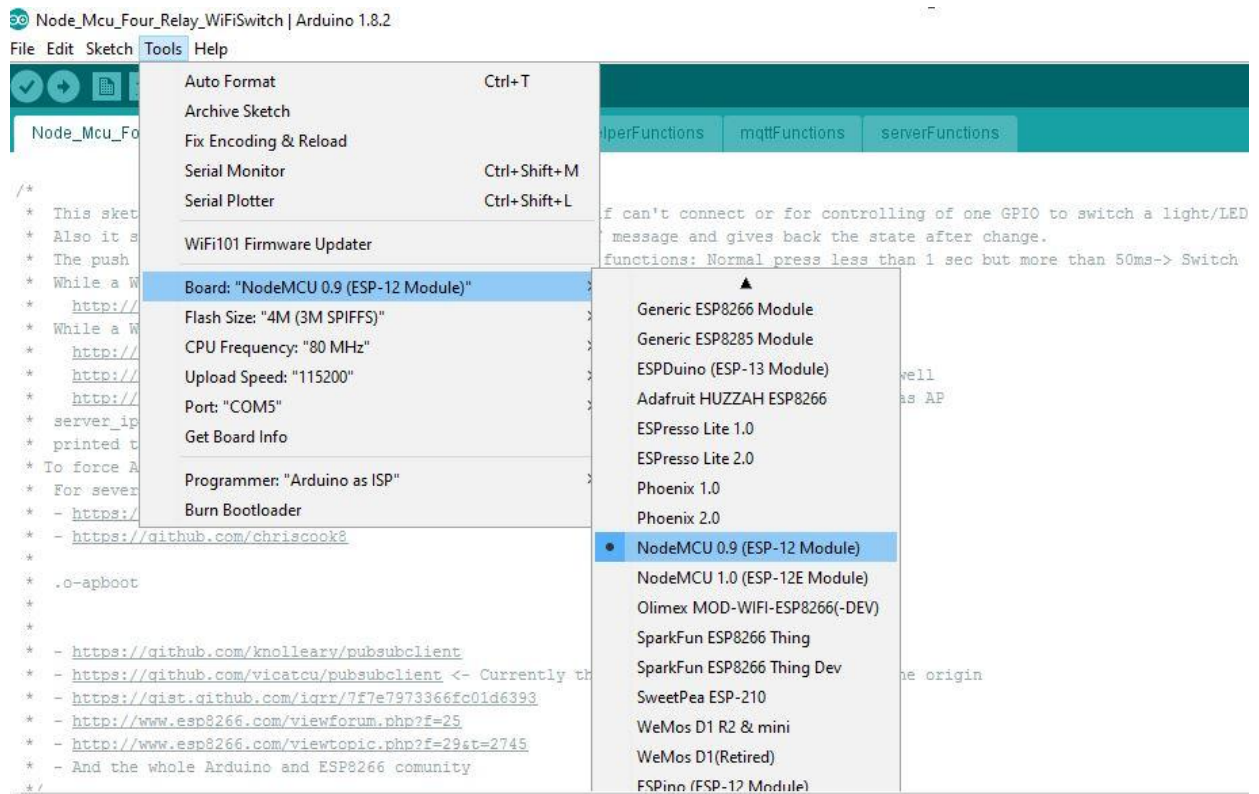

Figure 10: Board Selection
9. Click on Tools Tab, move mouse pointer on "Board: xxxxxxxxxxxx" and click on "NodeMCU0.9 (ESP-12 Module)" as shown in figure 10.